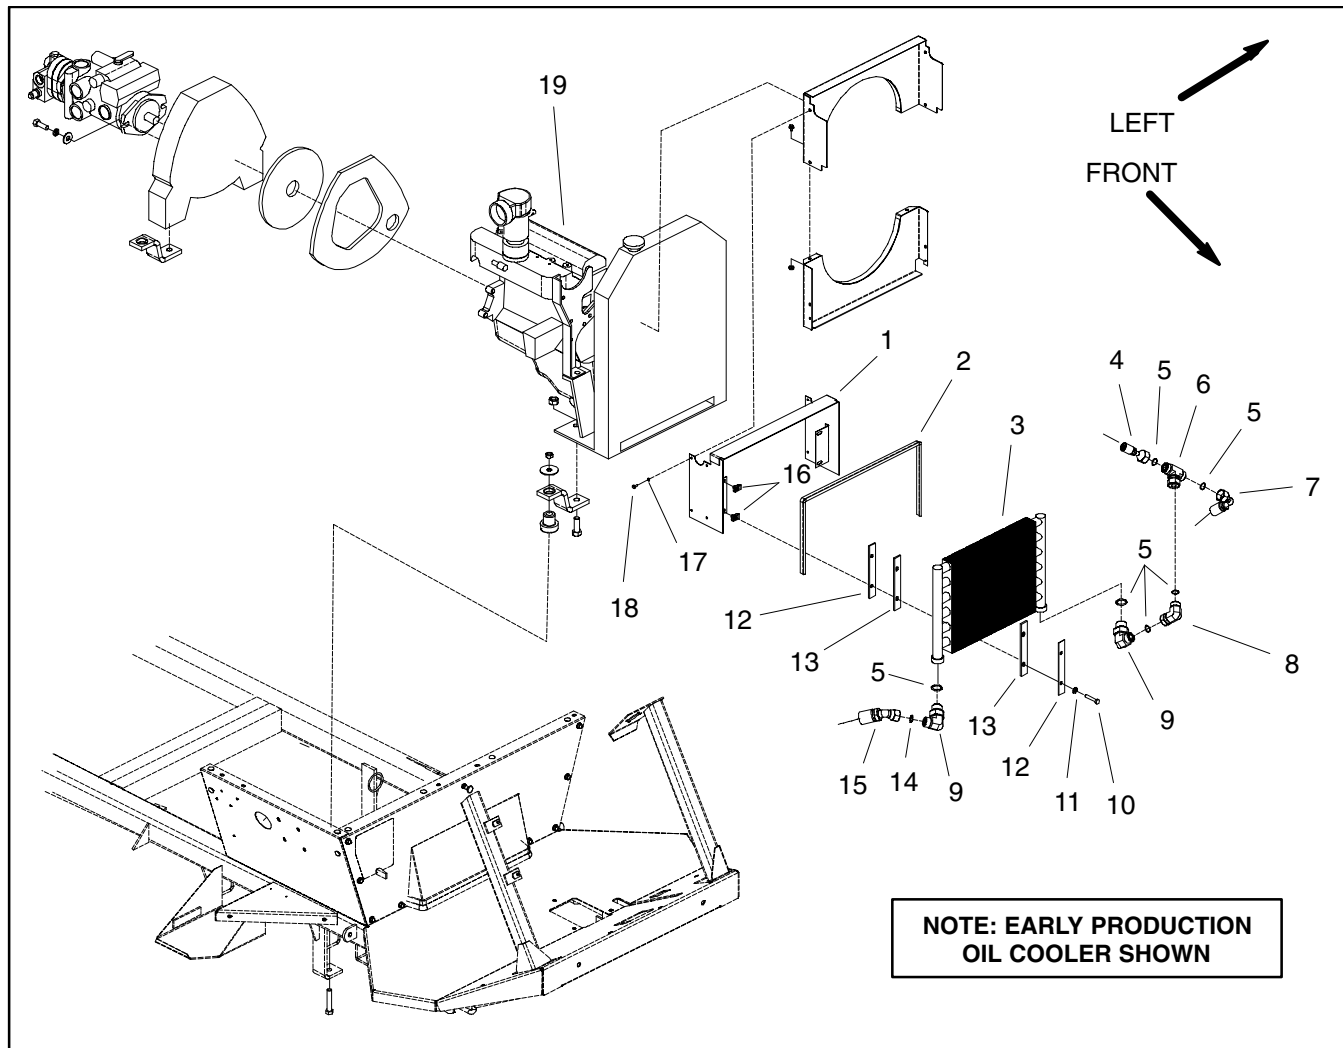

Figure 53
## Removal (Fig. 53)
- A. On early production machines (Fig. 53), loosen and remove four (4) cap screws and flat washers that secure oil cooler to oil cooler shroud. Locate and retrieve armaflex and backing strips from front and back of oil cooler as cooler is removed from machine.
## Installation (Fig. 53)
- A. On early production machines (Fig. 53), place armaflex and backing strips to front and back of oil cooler. Position oil cooler to shroud. Secure oil cooler to shroud with flat washers and cap screws.